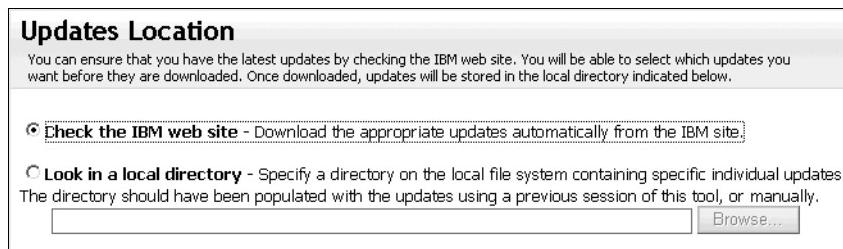

Figure 6-14 UXSPI Updates Location panel
- Accept the **Check the IBM website** default, as shown in Figure 6-14, and then click **Next**.